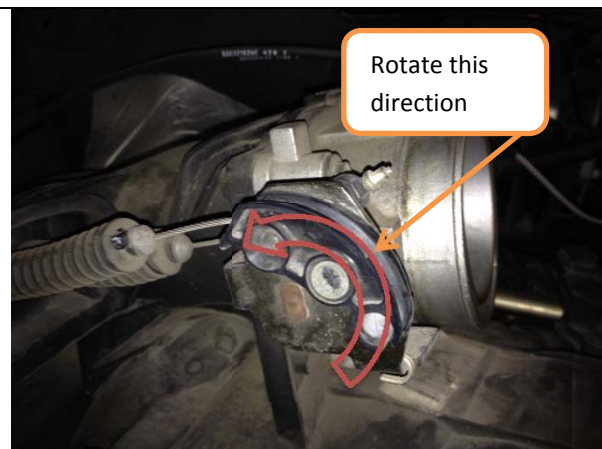

Figure 8: Throttle cables on side of throttle body.
- 7. Release throttle cables (Figure 8)